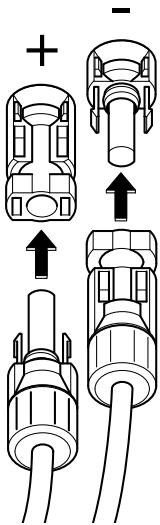

Fig. 38: Connect the PV string
6. Plug the sockets and plugs of the DC cables onto the inverter. **Fig. 38**